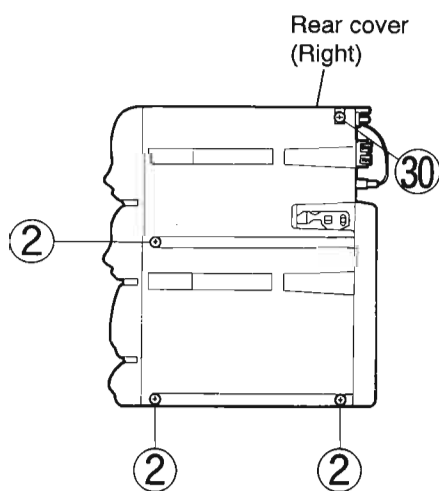
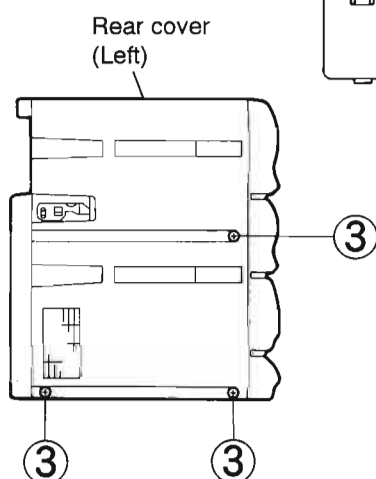
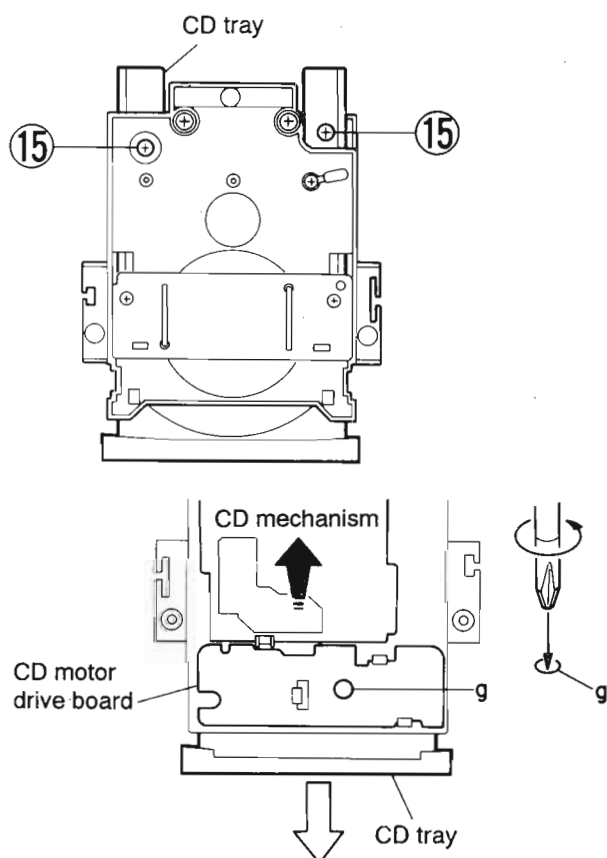

Fig. 5-2
Fig. 5-3
Fig. 5-13
2. Remove the three screws (2) retaining the rear cover from the right side of the body (Refer to Fig. 5-2).
3. Remove the one screw (30) retaining the rod antenna and take it out.
4. Remove the three screws (3) retaining the rear cover from the left side of the body (Refer to Fig. 5-3).
■ How to Remove the CD Tray (Refer to Fig. 5-13)
5. Remove the two screws (15) playing a role of CD tray stopper.
6. Insert the driver into the hole (g) on the CD motor drive P.C. board and turn it in the arrow direction as shown in Fig. 5-3. Then, the CD mechanism will be raised in the arrow direction.